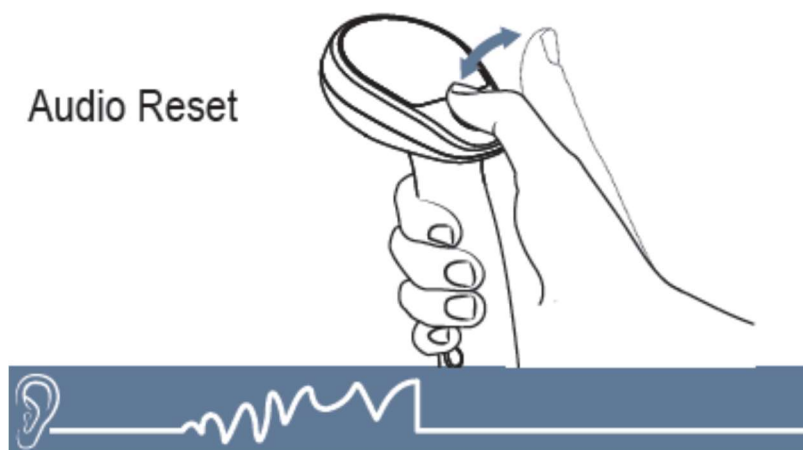

Figure 6: Audio Reset.
- Once the threshold tone has increased in volume, press and immediately release the green ground balance button to initiate an audio reset, as shown in figure 6